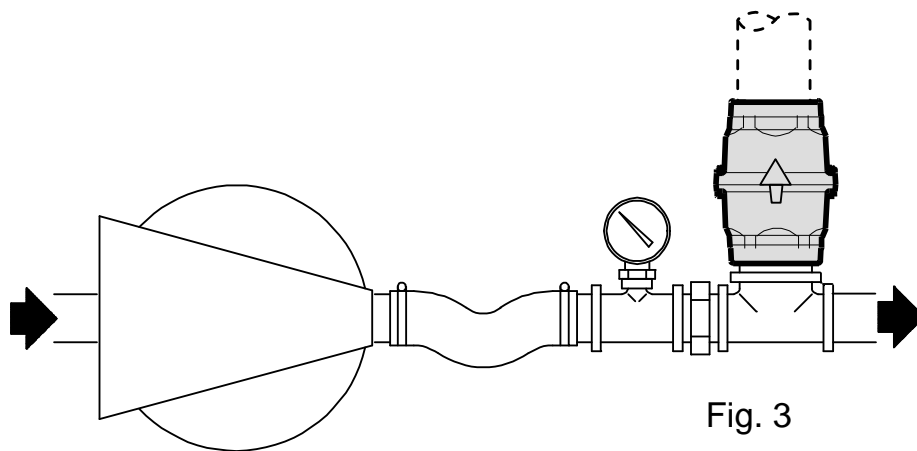

Fig. 3
- Position valve on the discharge by-pass and connect a pressure gage as close as possible to the blower outlet (Fig. 3).